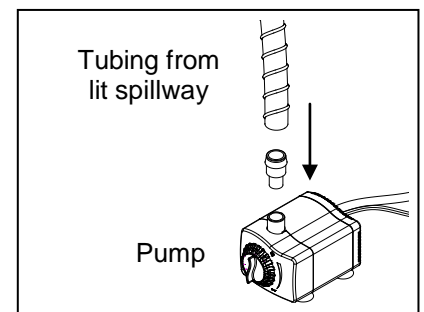

Fig. 5
5. Connect other side of tubing from lit spillway to outlet of pump with adapter. Fig. 5